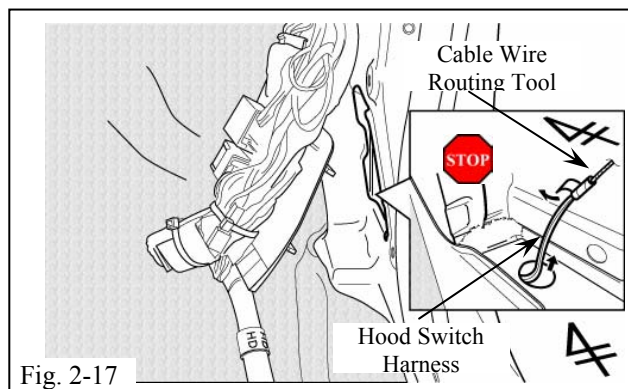

Fig. 2-17
- (x) Route the Hood Switch Harness into the Passengers Area. (Fig. 2-17)
- (y) Remove the Insulated Tape and Cable Wire Routing Tool. (Fig. 2-17)
- (1) Do not damage the Hood Switch Harness' Terminal.